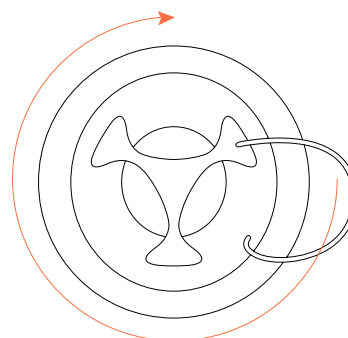

Fig 58 - Inflation valve with cap on, replace cap clockwise
8. When finished, remove the Stirrup pump by turning the nozzle anti clockwise and replace the main inflation valve protective cap to help ensure air tight integrity (Fig 58).